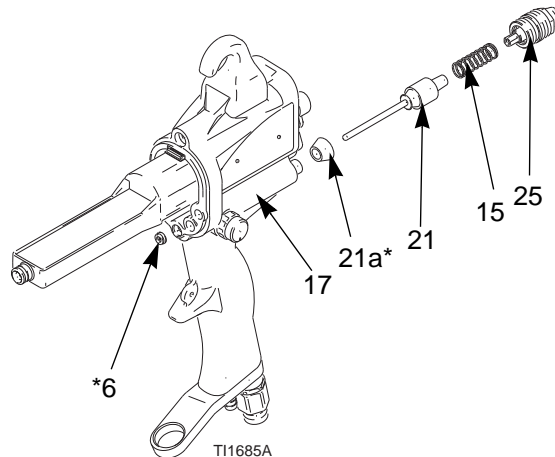

Fig. 34. Air Valve
3. Remove the fluid adjustment valve (25) from the handle (17). Remove the spring (15). See FIG. 34..